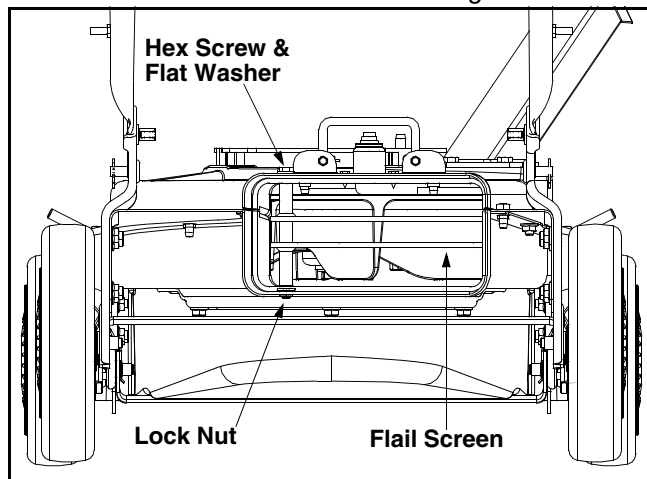

Figure 11
- Remove the bag or blower chute (if equipped) from the unit as instructed in the OPERATION section to obtain access to flail screen. See Figure 11.
- Remove hex screw on top of rear housing mounting bracket and the flange lock nut that secures flail screen. See Figure 11.
- Remove flange lock nut that secures flail screen to the lower housing. The flail screen does not have to be removed. Refer to Figure 11.